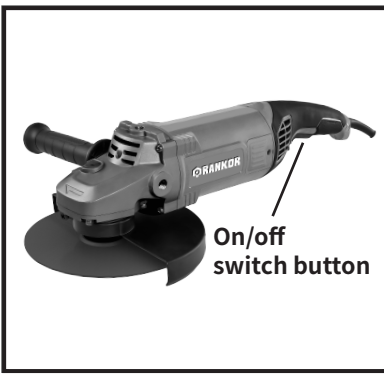

Fig 4
4. SWITCH (see fig 4)
The On/Off trigger switch is sprung in the OFF position. The angle grinder is started by pushing forward the On/Off switch. See fig 4. To stop the angle grinder, release the On/Off switch, and it will return to the OFF position.